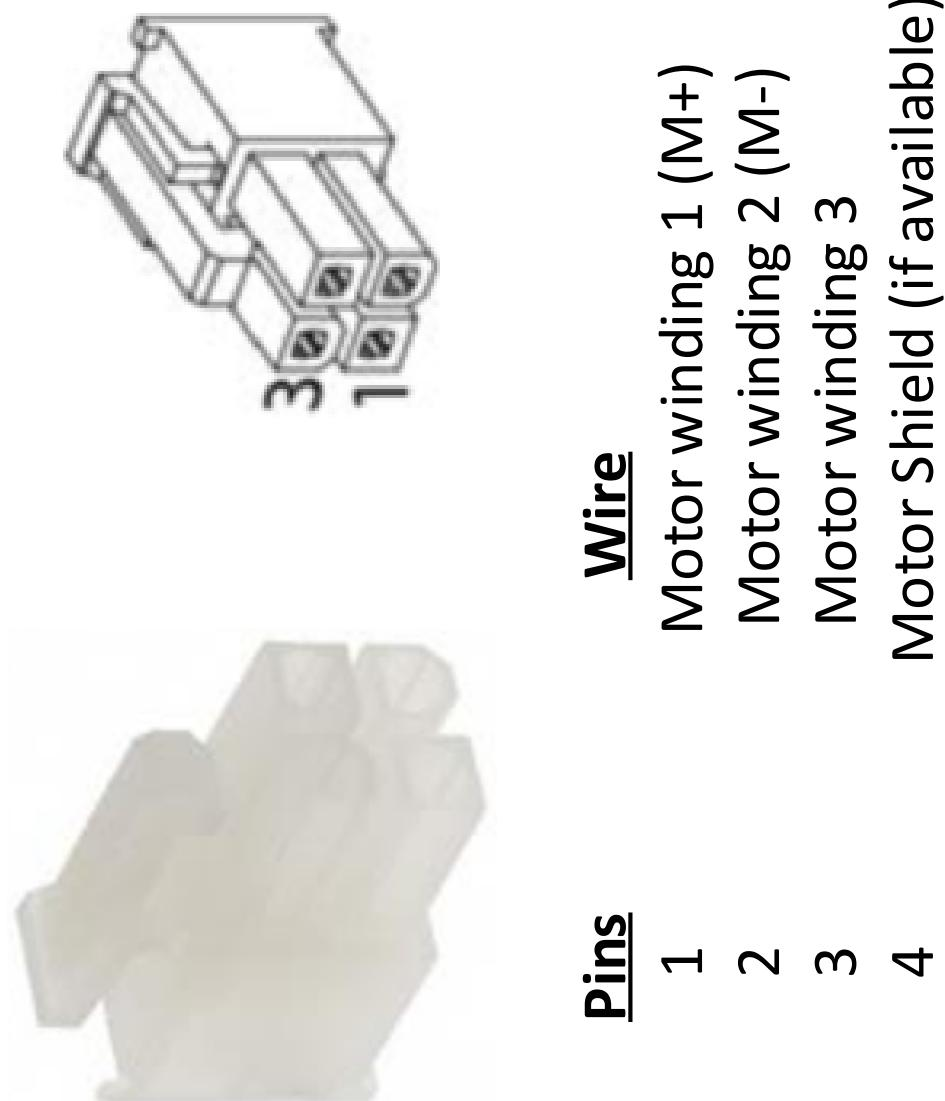

Figure 3.29: miniMotor: Molex Mini-Fit®Jr. 4 poles (39-01-2040)
- Picture and pinout: see figure 3.29